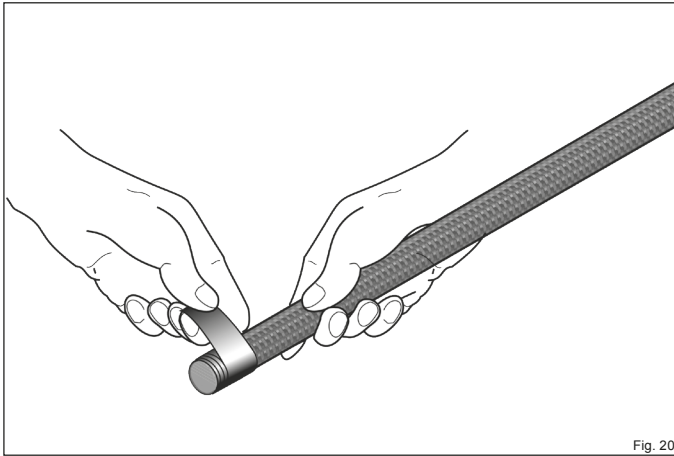
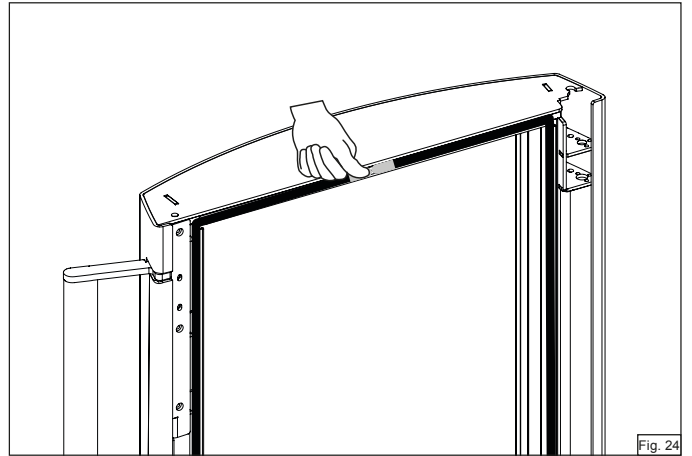

Fig. 20
Fig. 24
- ▶ **Wrap approx. 3 cm of one end of the new seal with copper tape (Fig. 20).**
- ▶ **Also wrap this end in copper tape (Fig. 20) and push the seal into the rail (Fig. 24)**